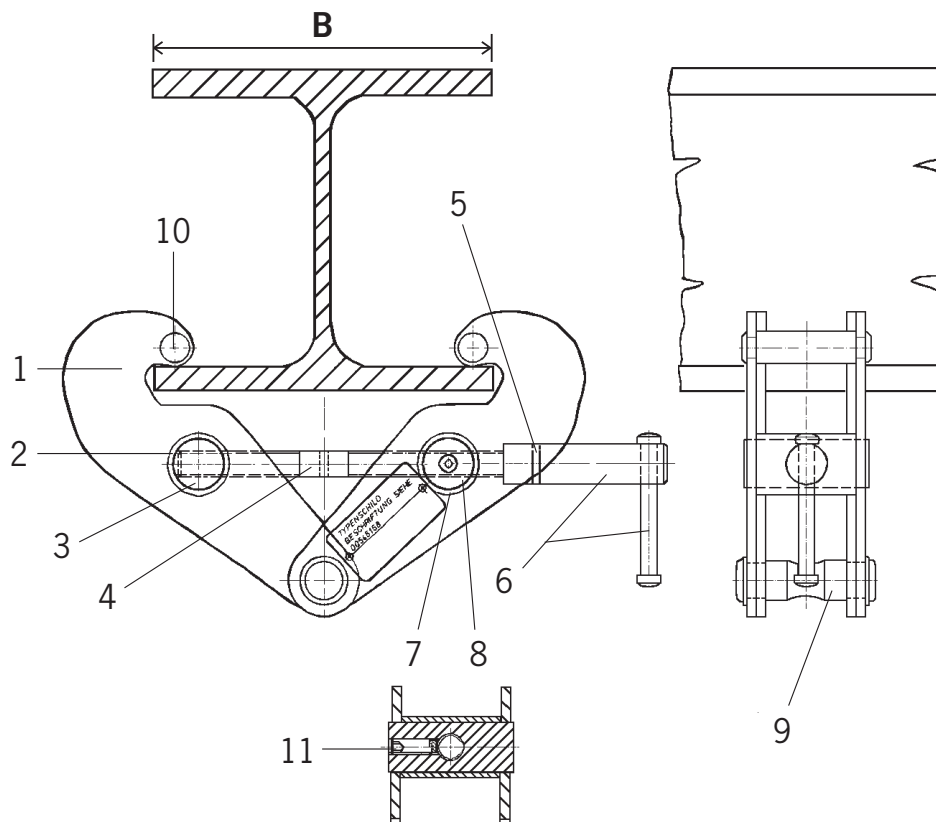

Fig. 8
- The load lifting attachment can be secured against unintended loosening or opening. To do this, the threaded pin (Fig. 8, Pos. 8) which is fitted in the longitudinal axis of the tensioning nut (Fig. 8, Pos. 11), must be tightened using a hexagon socket key. A copper flat on the tip of the threaded pin prevents damage to the spindle.